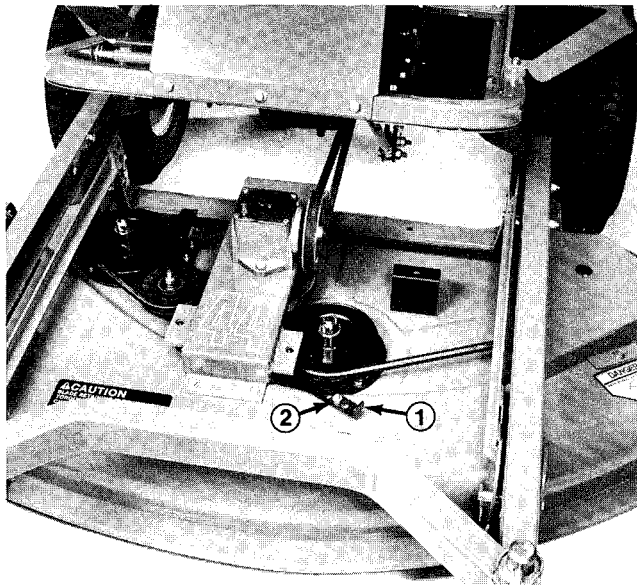

Figure 16
2. Remove nut securing spring anchor to capscrew in housing (Fig. 16). Lift anchor off capscrew and pull to increase belt tension. Correct belt tension is achieved when approximately 30-40 lbs. of force is applied to spring.
2. Remove nut securing spring anchor to capscrew in housing (Fig. 16). Lift anchor off capscrew and allow belt to relax.